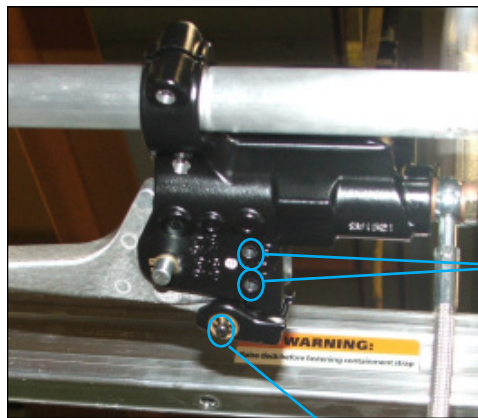

Figure 2
2. Figure 2 shows the three holes that will be utilized with the new brake pawl assembly. Remove the self-locking retaining clip that holds the current pawl in place by prying it off with a flat screwdriver. Pull out the pin to remove the spring and the pawl, taking care to keep track of the spring as it will be used within the new assembly.